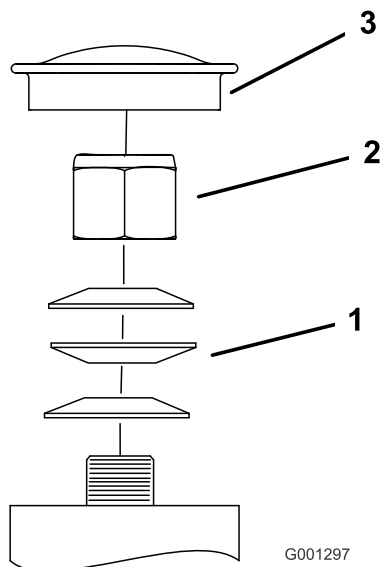

Figure 64
3. Remove the dust cap from caster and tighten lock nut (Figure 64).
4. Tighten the locknut until the spring washers are flat and then back off a 1/4 turn to properly set the pre-load on the bearings (Figure 64).
Important: Make sure the spring washers are installed correctly as shown in Figure 64.
5. Install the dust cap (Figure 64).